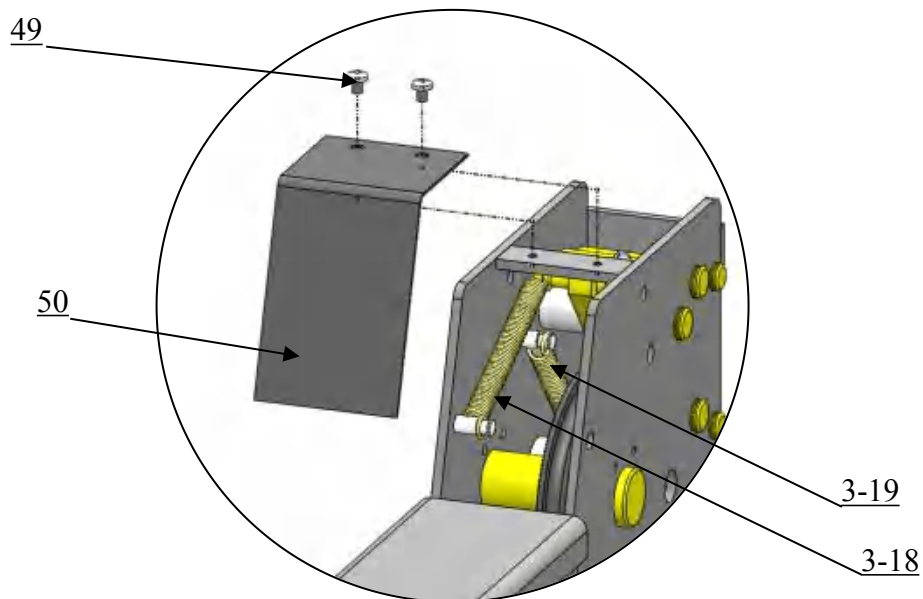

Fig. 29
4. Install tension spring and cross beam protective cover. (See Fig. 29).